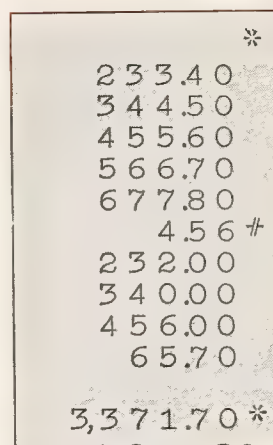

Figure 24
For instance, in Fig. 24, the item 4.56 was listed and accumulated in the adding wheels through error.